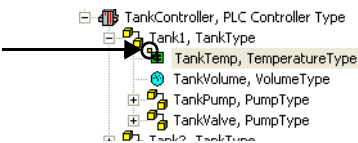

Figure 34. Icon Indicating Individual Signal Settings
- 13. The  icon indicates that the process signal now has individual signal settings, see also Figure 34.